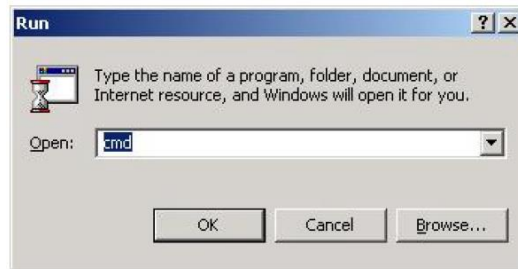

Figure 4-14 Starting the Command Console
4. In the Run window, type **CMD** and click OK. See Figure 4-14